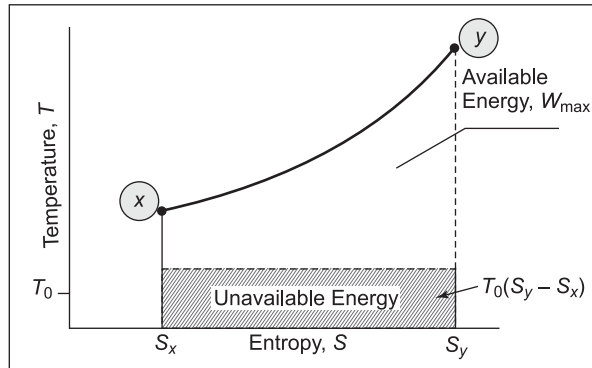

Figure 7.1 Availability of energy
For a total Q amount of heat supplied at T_1 temperature with ambient temperature as T_0 , the maximum amount of work, W , i.e. available energy (AE) can be evaluated by operating a Carnot engine having source and sink temperatures equal to T_1 and T_0 respectively (Figure 7.1).